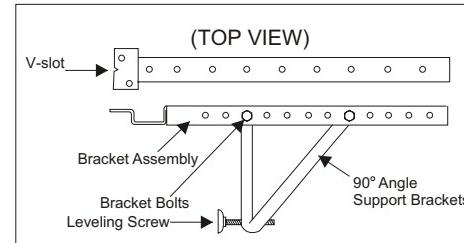

Fig. 5
### A. Attach the bracket assembly to 90° angle support brackets (Fig. 5) using (2) 1 1/2" bolts